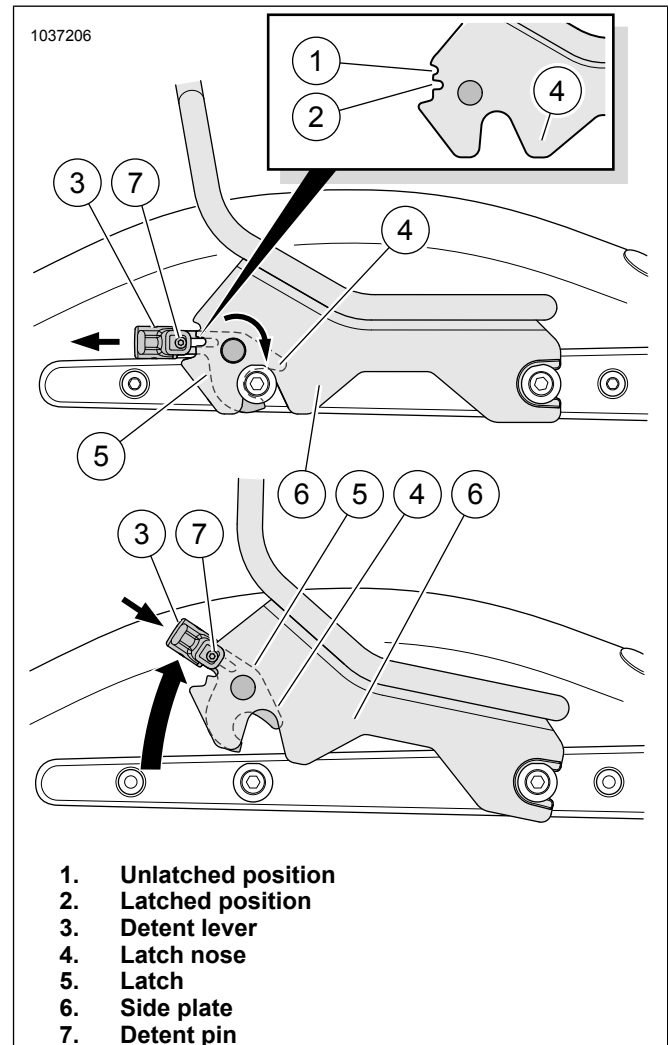

Figure 1. Detachable Accessory Removal
1. See Figure 1. Remove detachable accessory from motorcycle.
- a. Pull both detent levers (3) rearward and upward.